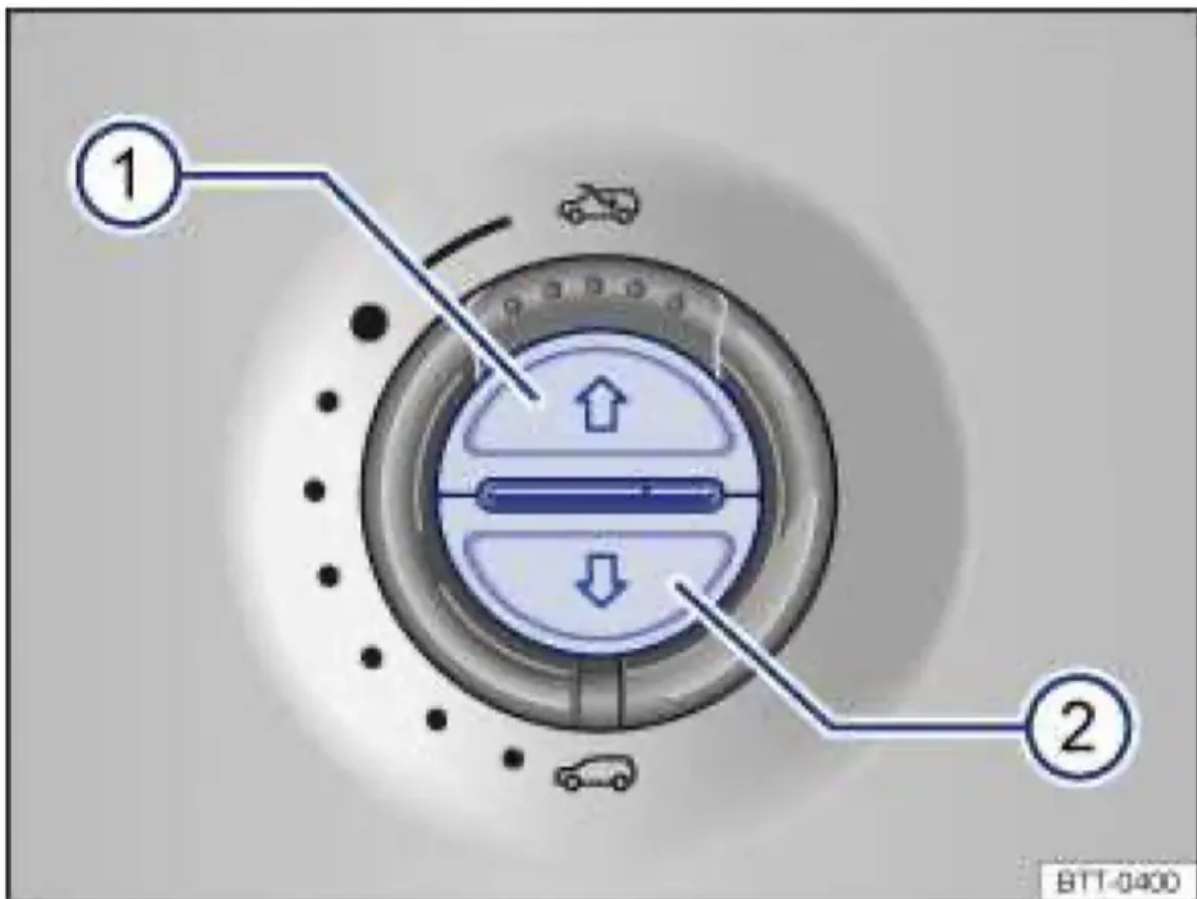

Fig. 323 In the headliner: Buttons for sunshade.
- Press and hold the button ⇒ fig. 323 (2) for about 5 seconds until the sunshade is completely closed.